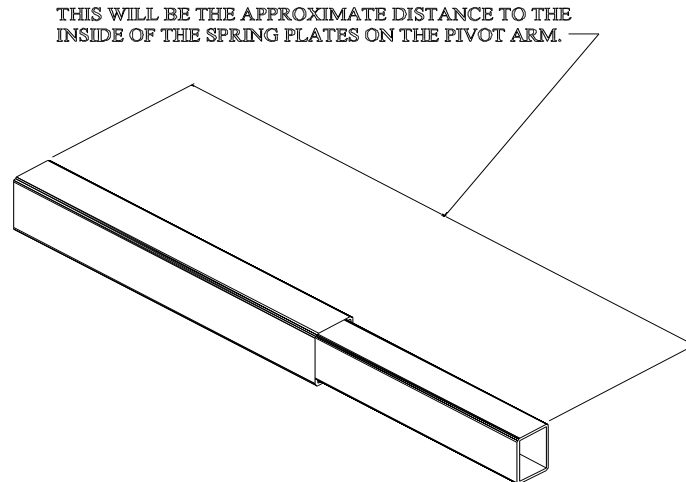

Figure 4
- 2) Determine how far the pivot pin is to stick out from the truck by sliding the adjustable leg in or out. Refer to figure 4 below.